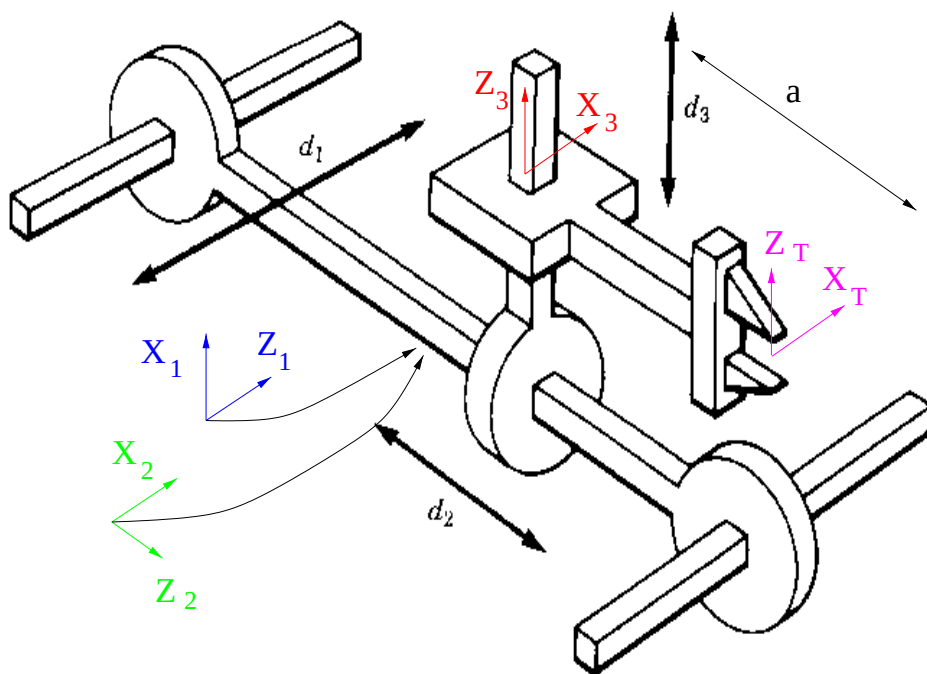

Figure 4. Frames for Problem 6.
6. (a) Figure 4 shows the manipulator with the link frame assignments determined in Homework 3, with a tool frame added at the end effector. The relationship between the tool frame and frame 3 is a pure displacement in the $-y$ direction, *i.e.*,